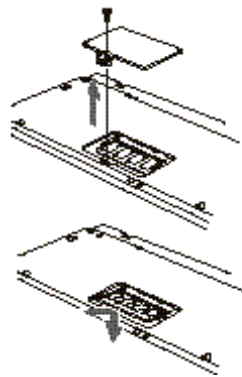

Figure 5-21 Memory Upgrade Installation
4. Remove the screw of the memory upgrade compartment. (See Figure 5-21.)
- Align the connector edge of the memory upgrade module with the connector slot in the compartment. The notch on the module should be on the right with the part side up and the connector pointing towards the back of the notebook and aligned with the notch in the connector inside the compartment. (See Figure 5-21.)
- Insert the memory upgrade module at a 45° angle. (See Figure 5-21.) Press the connector edge of the module firmly down and into the connector.